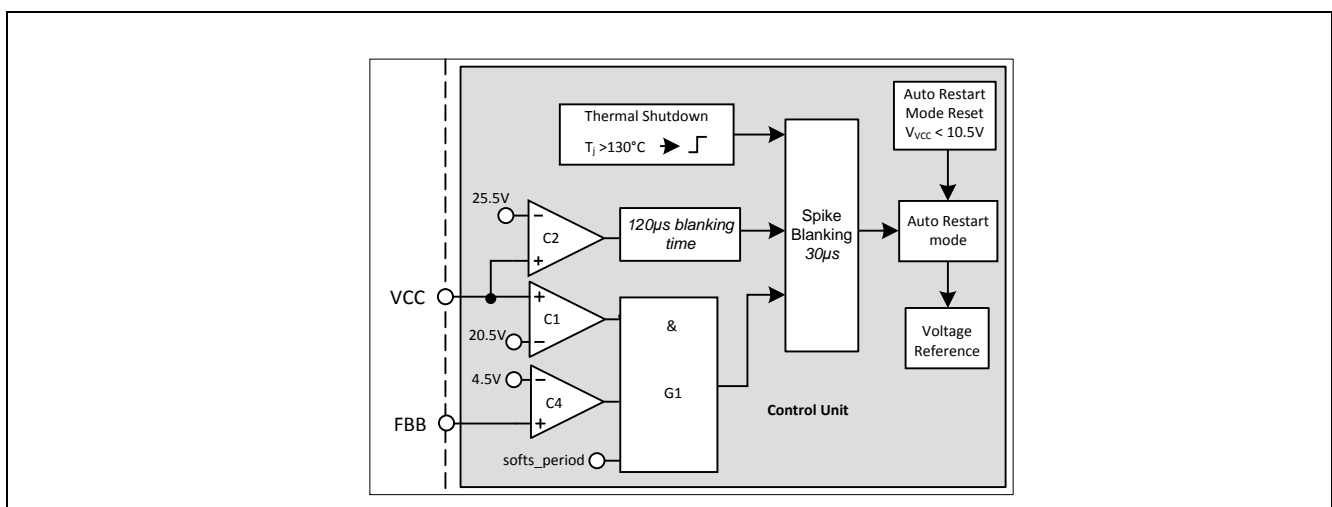

Figure 30: V_{cc} OVP and OTP
V_{cc} OVP (1) condition is when V_{VCC} voltage is > 20.5V, V_{FBB} voltage is > 4.5V and during soft start period, the IC enters into odd skip Auto Restart Mode. This condition likely happens during start up at open loop fault (Figure 30).
V_{CC} OVP (2) condition is when V_{CC} voltage is > 25.5V, the IC enters into odd skip Auto Restart Mode (Figure 30).
The over temperature protection OTP is sensed inside the controller IC. The Thermal Shutdown block keeps on monitoring the junction temperature of the controller. After detecting a junction temperature higher than 130°C, the IC will enter into the non switch Auto Restart mode. The ICE3AR0680VJZ has also implemented with a 50°C hysteresis. That means the IC can only be recovered when the controller junction temperature is dropped 50°C lower than the over temperature trigger point (Figure 30).